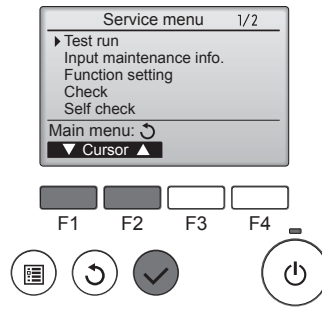

Fig. 7-4
- ③ Select "Test run" with the [F1] or [F2] button, and press the button. (Fig. 7-4)